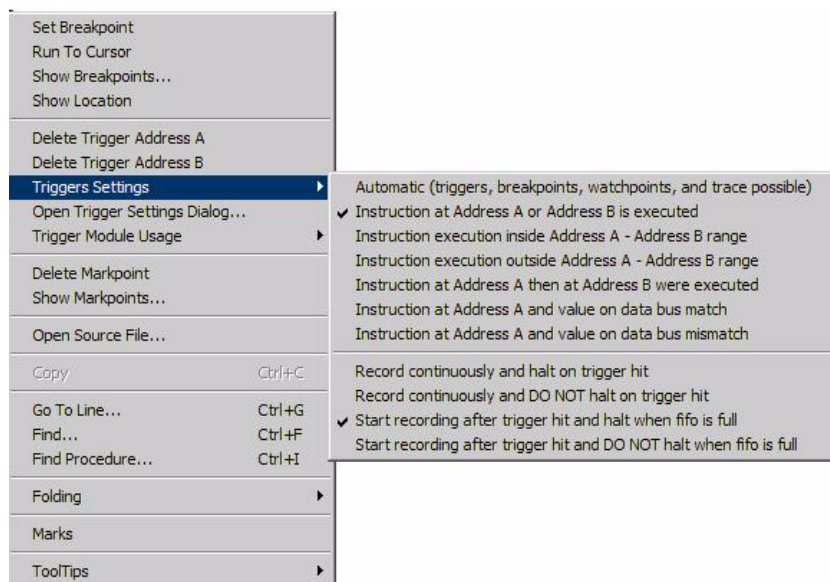

Figure 15. Trigger A and B Settings
- In this case, one comparator is set to execute a single, 16-bit address trigger with the A-only condition. You can set a dual 16-bit address trigger, where two comparators are set at separate 16-bit addresses with one of the following conditions requiring to be satisfied: A or B, inside A or B, outside A or B, A then B. Trigger B would be set in exactly the same way as trigger A. When both triggers are set, the conditions between the two addresses can be adjusted by scrolling through trigger settings (Figure 15)